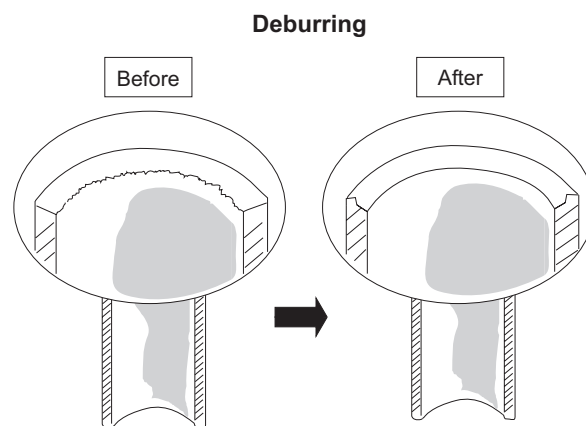

Fig. 1-110
- (1) Cut the copper tube to the required length with a tube cutter. It is recommended to cut approx. 12 – 20 in. longer than the tubing length you estimate.
- (2) Remove burrs at each end of the copper tubing with a tube reamer or file. This process is important and should be done carefully to make a good flare. Be sure to keep any contaminants (moisture, dirt, metal filings, etc.) from entering the tubing. (Figs. 1-110 and 1-111)